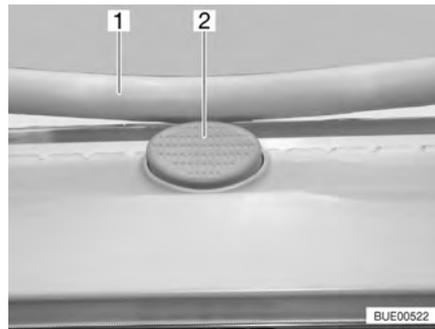

Fig. 64 Safety knob on the Heki skylight
- Press the safety knob (Fig. 64,2) and pull the bar (Fig. 64,1) down with both hands.
- Push the bar upwards with both hands until it is above the safety knob (Fig. 64,2).